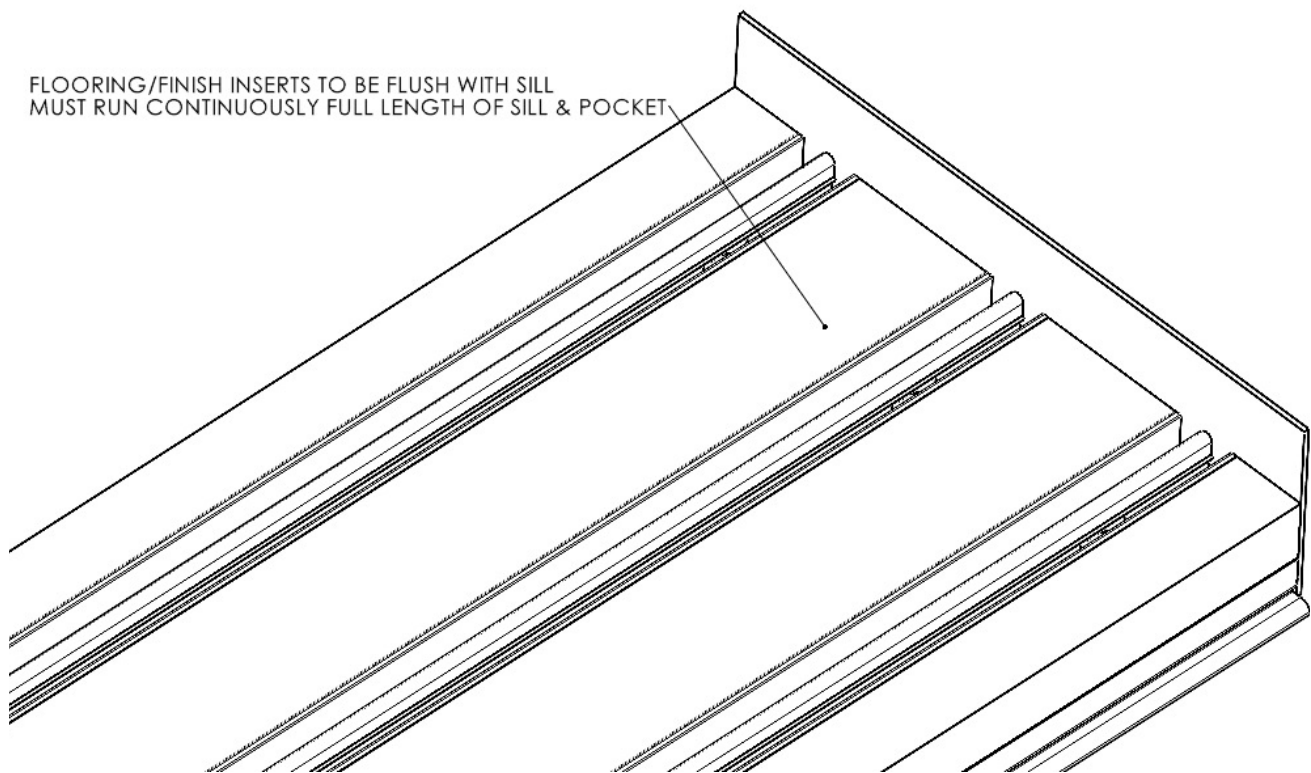

Figure 8
- No water management (sill with no weeps or drain fitting) (See Figure 8).
9. **Sill With No Weeps** - Sill with No Weeps - Sills with no weeps or drain fitting (no water management) shall have flooring fillers flush with the top of the sill and run the length of sill and full length of pocket. (See Figure 8). Proceed to Step 10.